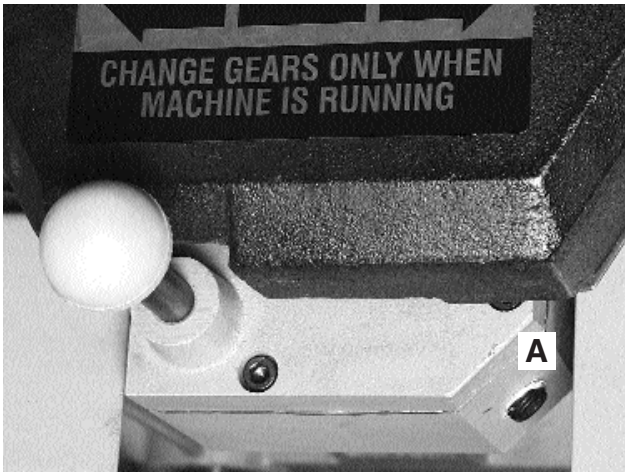

Fig. 20
The gear box drain plug is shown at left Fig. 20 (A). The oil fill and level plug is at the top of the gear box.